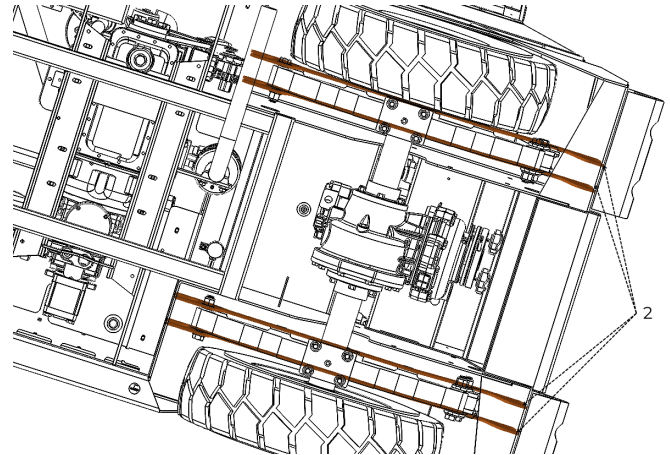

Figure 41. Suspension Mounting Tabs.
- Suspension mounting tabs (2) (see Figure 41).